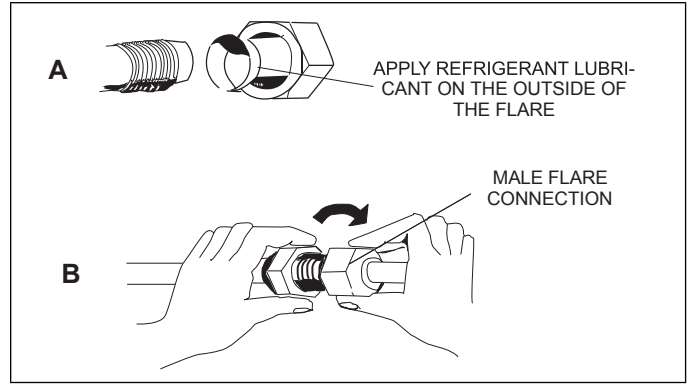

Figure 30. Making Connections (Male to Female Connection)
15. Align the threaded connections with the flared refrigerant lines. Tighten the flare nuts lightly at first to obtain a smooth match as illustrated in "Figure 30. Making Connections (Male to Female Connection)".